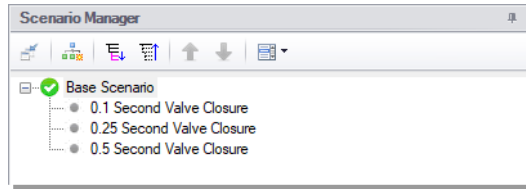

Figure 5.5 Completed Scenario Manager for High Pressure Steam - Forces
- **Right-click the Base Scenario in the Quick Access Panel.** Create another child and call it "0.25 Second Valve Closure". Finally, create one more child and call it "0.5 Second Valve Closure". The child scenarios should now be displayed as shown in Figure 5.5.